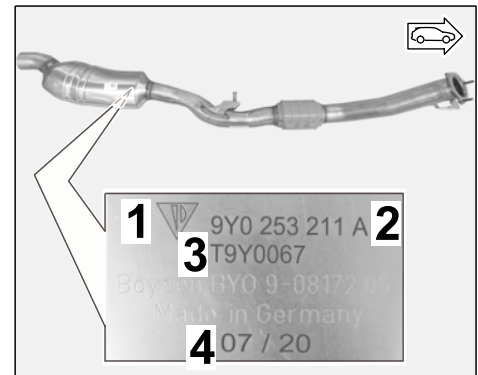

Figure 5
– Front silencer **WITHOUT** PPF (⇒ *Figure 5*):